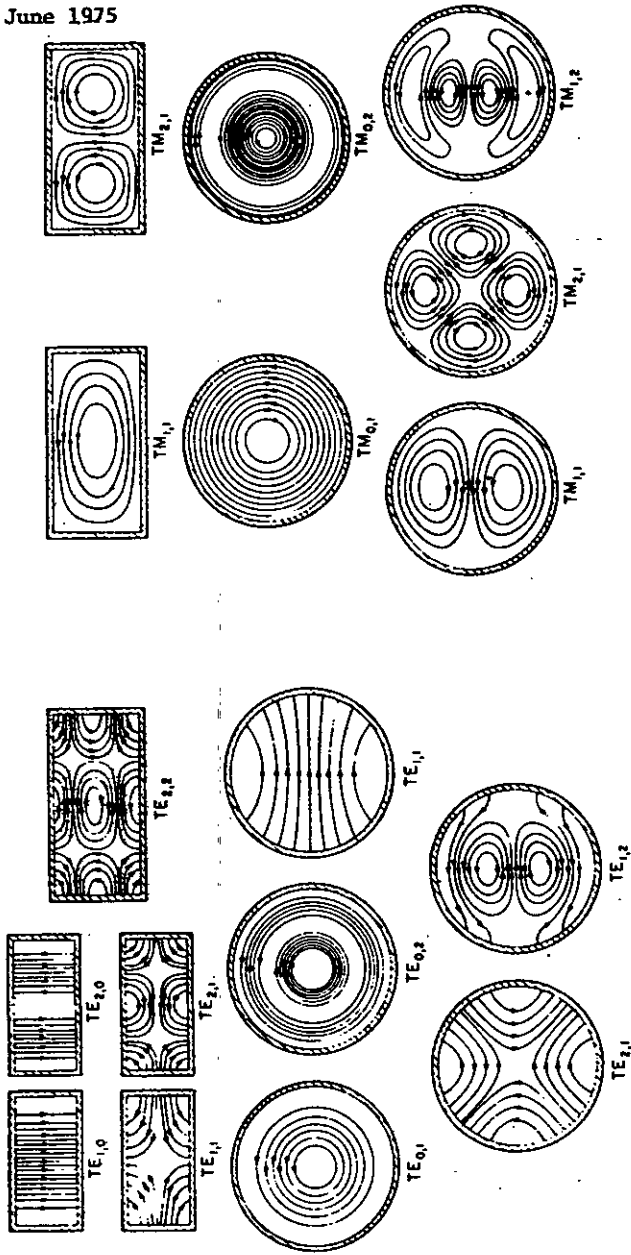

FIGURE 6.1. Cross-section view of the configuration of electric field for common TE modes in rectangular and circular waveguides.
6.1.1 Modes. Electromagnetic energy can propagate through a hollow metallic tube or waveguide with many possible configurations of electric and magnetic fields; each specific configuration is known as a "mode". The particular mode which is transmitted within a waveguide depends on the excitation employed, and on the size and shape of the waveguide cross section in relation to the wavelength or frequency of the wave. Modes are classified in reference to the field components in the direction of energy propagation. A mode is identified by two numerical subscripts (TE_{mn} or TM_{mn}) that denote the number of half-wave field variations in the width (a) and height (b) dimensions of the rectangular waveguide. For circular waveguides, the cylindrical coordinates are used where "m" is the variation in the θ direction and "n" in the ρ direction. For elliptical cross section waveguides, elliptic coordinates are employed with the subscript preceding referring to odd (o) or even (e) and the "m" and "n" referring to the number of half-wave field variations in the elliptical and hyperbolic directions. For most applications, these dimensions are chosen so that only the dominant mode, that is, lowest frequency or longest wavelength, will propagate. At any abrupt change in the waveguide cross section or obstacle, evanescent (higher order) modes may be excited but they are attenuated very rapidly in the dominant mode guide at a short distance from the discontinuity. A cross-section view of the more popular modes is illustrated in figures 6.1, 6.2, and 6.3. In the transverse plane, the lines of magnetic flux are always orthogonal to those of the electric field.